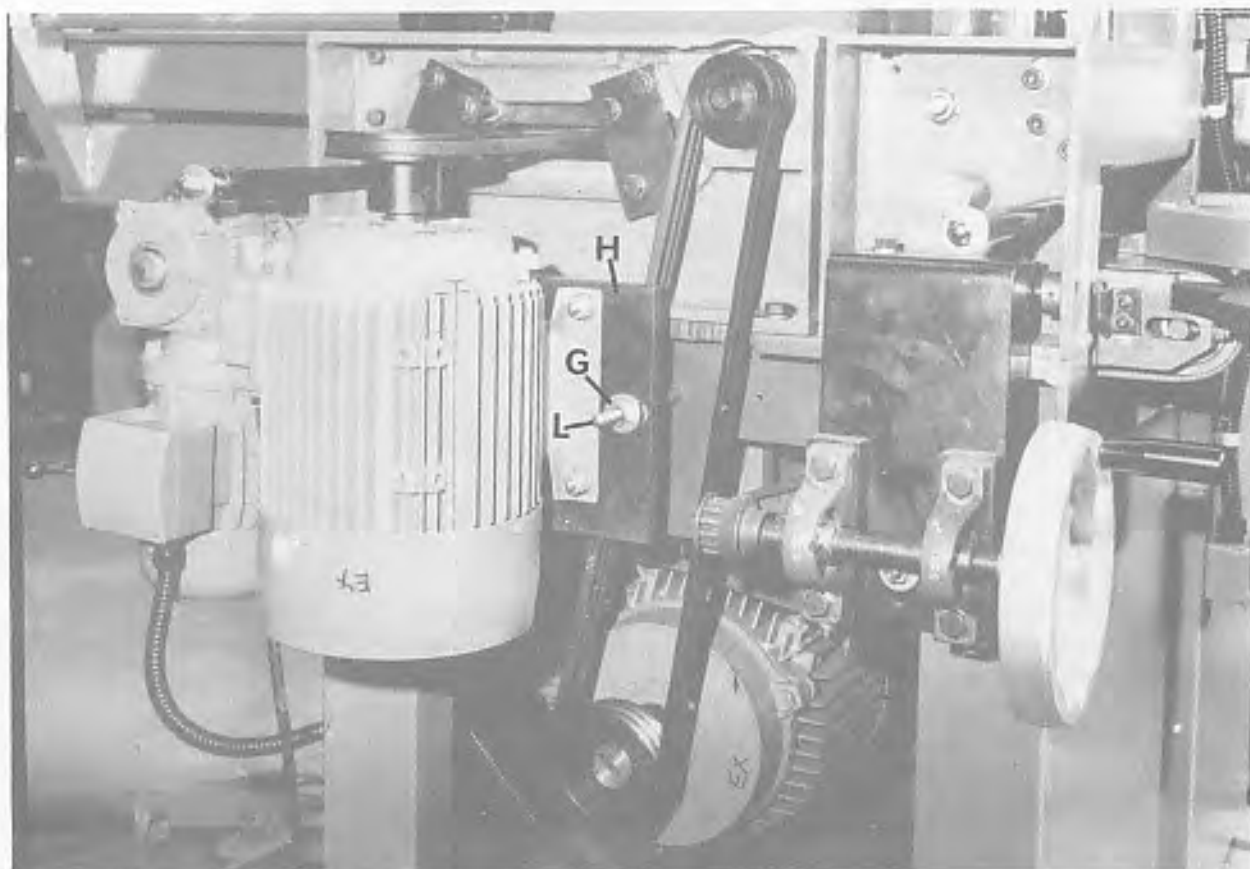

Fig 26
- 3) Release tension on M10 nut behind M10 nut "G" on pivot plate "H" FIG. 26.
- 5) Remove M10 nut and washer "G" from stud "L" FIG. 26.
- 4) Release tension on M10 nut behind M10 nut "G" on pivot plate "H" FIG. 26.